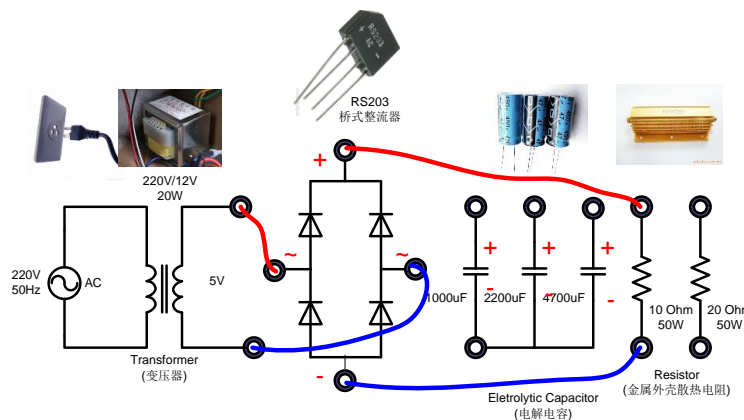

Figure 7: Full-wave rectifier with resistor load
- Connect the full-wave rectifier circuit as shown in Figure 7 on the breadboard.